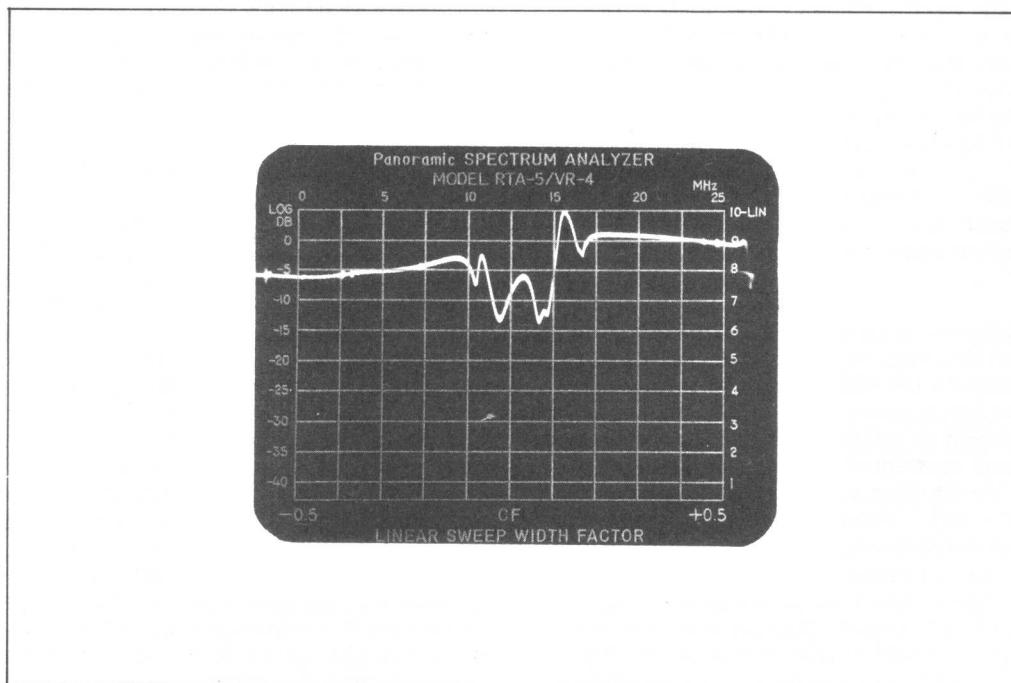

Figure 2-3. Peaking of Zero Pip in Search/Lock Mode During Mixer Balancing.
r. Adjust large, red thumb-wheel control adjacent to CENTER FREQUENCY 0-25 MHz dial control for waveform shown in figure 2-3, at maximum amplitude.